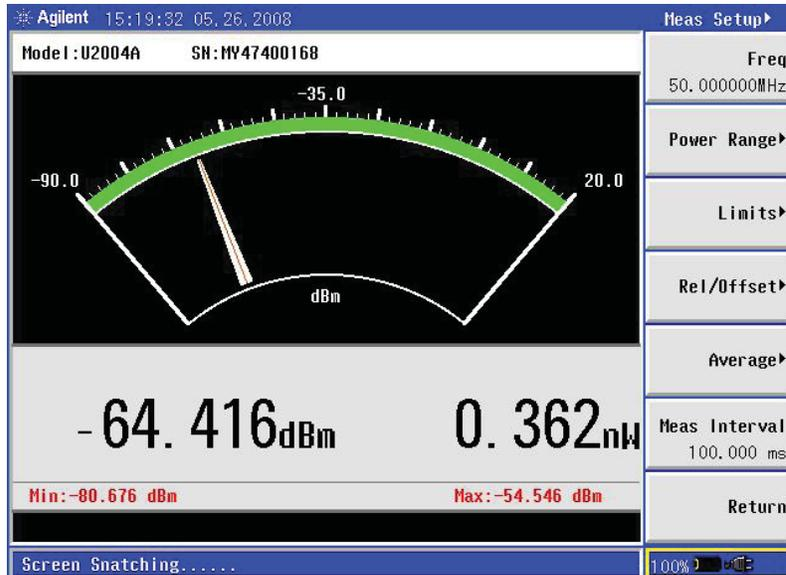

Figure 18 Measurement Setup menu with meter-view display measurement
5. Press {Return}. Press {Meas Setup} (see Figure 18).